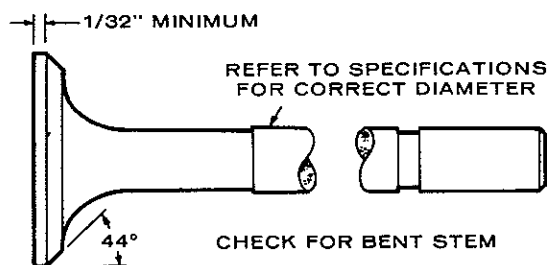

FIGURE 15-7. VALVE MARGIN
9. Every valve must have a minimum of 1/32 inch (0.79 mm) margin, Figure 15-7. If the valve has less margin than this, it will heat up excessively. It very likely will retain that heat during the compression stroke and preignite the mixture, causing loss of power and economy. This valve is also susceptible to warping and breakage.